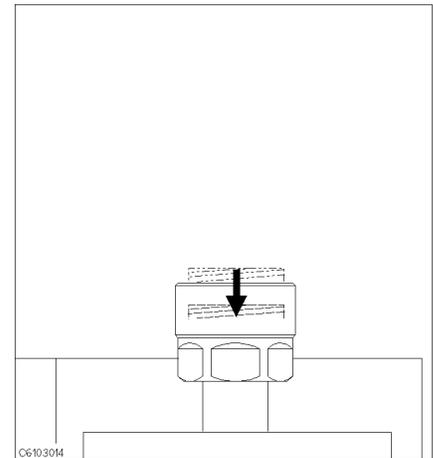

Figure 3-13.
2. Verify that the connector sleeve is retracted fully as shown in Figure 3-13.